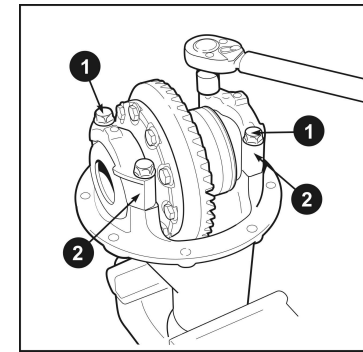

Fig. 6
- 1.10 Remove the bolts (1) and remove the bearing caps (2). (Fig. 6)